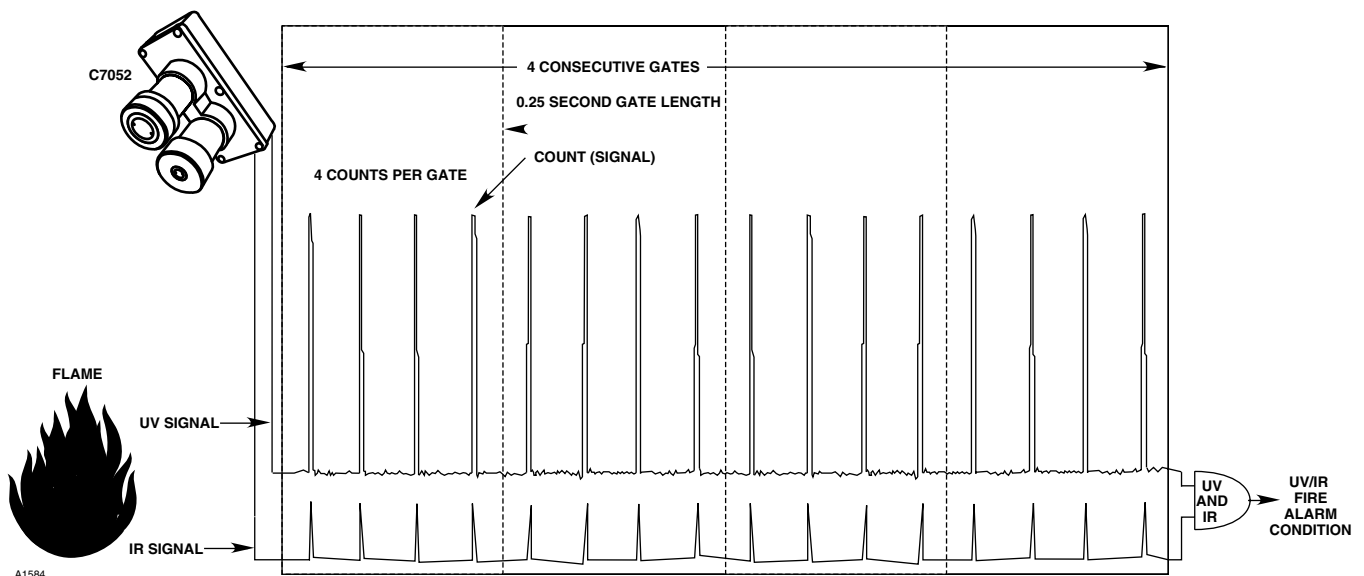

Figure 21—Graphic Representation of STAR Logic (Typical Setting Shown)
The most effective way to set system sensitivity is to install the system, program the STAR Logic according to the typical settings shown in Figure 21, program all other aspects of controller operation according to this section (“Programming the Controller”), then perform the “Initial and Periodic Checkout Procedure” using a UV/IR test lamp and the “STAR Programming Checkout Procedure.”. If the system fails to respond appropriately during these tests and all system wiring is correct, then system sensitivity (gate length, counts per gate, and consecutive gates) needs to be adjusted. It is important that all wiring and programmed settings be checked to ensure that they are correct before adjusting these settings.
Rocker switch assemblies 2 and 3 control three variables; gate length, counts per gate and consecutive gates required for a fire output. Refer to Figure 21 for a visual representation of how these variables function together with typical controller settings. Keep in mind that when the UV and IR sensors of the detector respond to a fire, the IR sensor activates the circuitry in the UV/IR detector junction box. This allows the electrical pulses (signal) from the UV sensor to be sent to the controller. The frequency of this signal is proportional to the intensity of the fire. The controller looks at this signal in comparison to the sensitivity settings in order to determine whether a fire exists. A brief description of each variable follows:
1. Gate Length is adjustable from 31.25 milliseconds to 8 seconds. The gate length is the increment of time that the controller looks at the detector signal to determine if the "Counts per Gate" requirement is fulfilled. In Figure 21, the gate length is 0.25 seconds (Rocker Switch 2-4 closed, Rocker Switches 2-1, 2-2, 2-3, 2-5, 2-6, 2-7, and 2-8 open).
2. Counts per Gate is adjustable from 2 to 15 counts. These counts make up the signal from the detector and are a direct response to a flame or other UV/IR source. In Figure 21, the counts per gate setting is 4 counts (Rocker Switch 3-3 closed, Rocker Switches 3-1, 3-2, and 3-4 open).
3. Consecutive Gates required for a fire output are adjustable from 2 to 15 gates. This is the number of consecutive gates in which the "Counts per Gate" requirement is fulfilled that the controller must see before going into a fire alarm condition. In Figure 21, the consecutive gates setting is 4 gates (Rocker Switch 3-7 closed, Rocker Switches 3-5, 3-6, and 3-8 open).